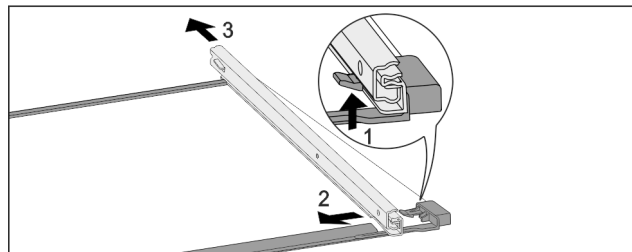

Fig. 202 Glass shelf with rails
- ▶ Push up front click-in hooks. Fig. 202 (1)
- ▶ Move the pull-out rails to the side Fig. 202 (2) and to the rear Fig. 202 (3).